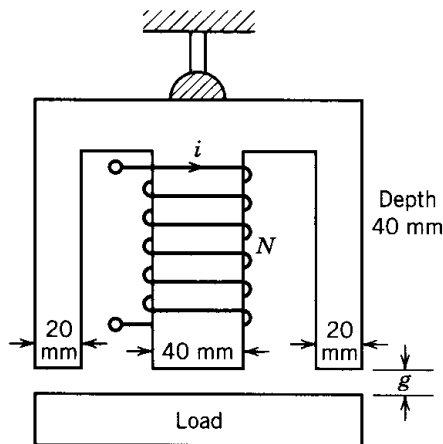

FIGURE P3.5
- 3.5 An electromagnet lift system is shown in Fig. P3.5. The coil has 2500 turns. The flux density in the air gap is 1.25 T. Assume that the core material is ideal.